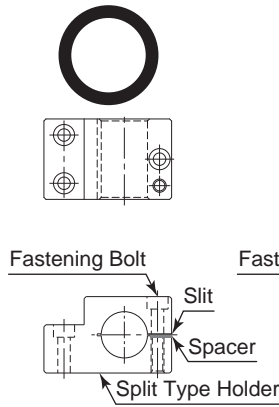

Fig. 11
② When installing an Air Motor Spindle to the holder, recommended installation method is shown Fig. 11. Refer to "③ How to fabricate the Split Type Holder".